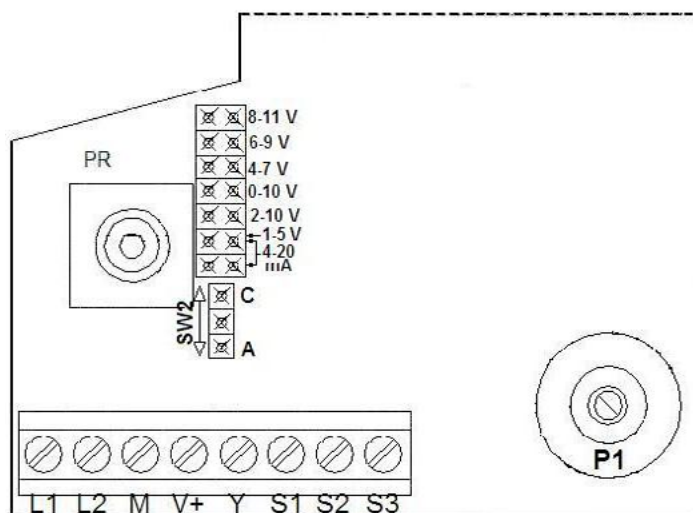

FIG. 2
The actuators are supplied with a 0...10 V- input signal and with jumper SW2 (rotation direction) on C. In order to select a different signal range, it is necessary to move the SW1 jumper from 0...10 set position to the desired one (see Fig. 2). To select the 4...20 mA field, it is necessary to insert two jumpers, also using the one preset in open position.
The actuator rotation direction can be reversed by moving the SW2 jumper from C to A position (see Fig. 2).
- (1) With voltage between N (Common) and Y1 (phase from controller contact): the actuator joint moves upwards. With voltage between N and Y2 the joint moves downwards. Without voltage the actuator remains in the position gained.
- (2) For MVB36: connect the controller potentiometer cursor (165 Ω) to Y terminal, one end to M and the other to V+ terminal.
- (3) When SW2 jumper is in C position (See Fig. 2) and signal increases, the joint moves downwards.
- (4) Connect the indicator with input current to S3 (or S2) and S1 terminals. Connect the indicator with input voltage to S3 (or S2) and M terminals. The extreme voltage (current) value corresponds to joint up.